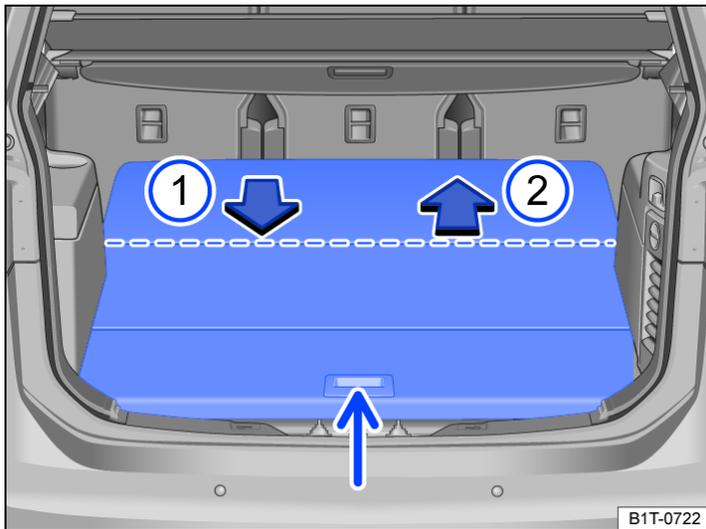

Fig. 1 In the luggage compartment: Lowering the luggage compartment floor.
2. Pull the luggage compartment floor in the direction of the arrow → *fig. 1* ① using the handle → *fig. 1* (small arrow) until the front section of the luggage compartment floor folds downwards by itself.
3. Slide the luggage compartment floor in the direction of the arrow → *fig. 1* ② as far as it will go. The luggage compartment floor is now lying in the bottom position.